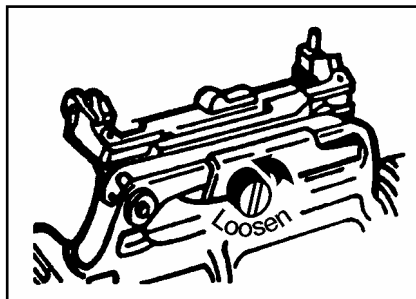

Figure 071-311-2125-2. Removing quadrant sight
- b. Pull back the slip ring. Lift up on the handguard and pull it to the rear to remove (figure 071-311-2125-3).